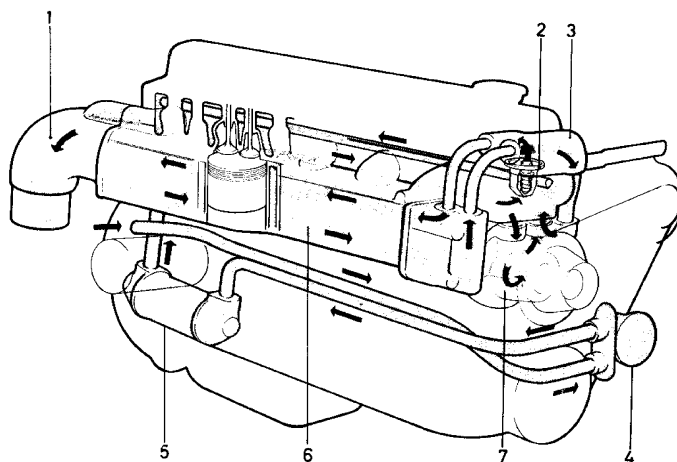

Fig. G2. 6-cyl. engine
1. Fit the washers on the rotor shaft according to Fig. G2.